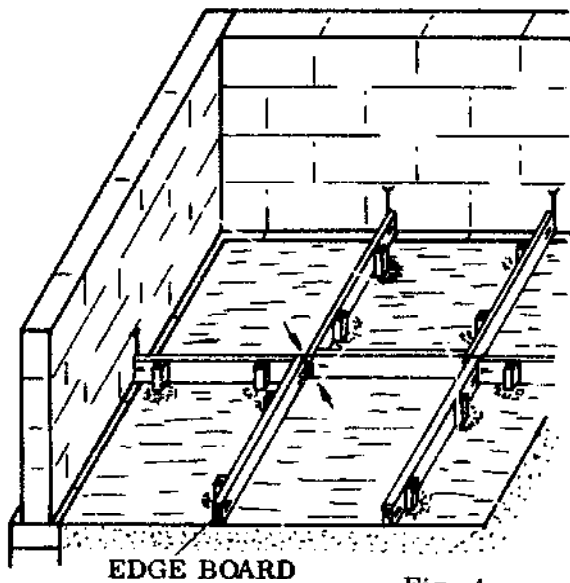

Fig. 4
- d. Cut the edgeboards to the proper length. Note the arrangement of the boards shown above in Fig. 4 and in Fig. 6 below, and cut the boards so that they fit in this pattern.
- f. Place the edge boards as shown in Fig. 4, along the marks. The corners of the boards should meet as shown in Fig. 6 below.